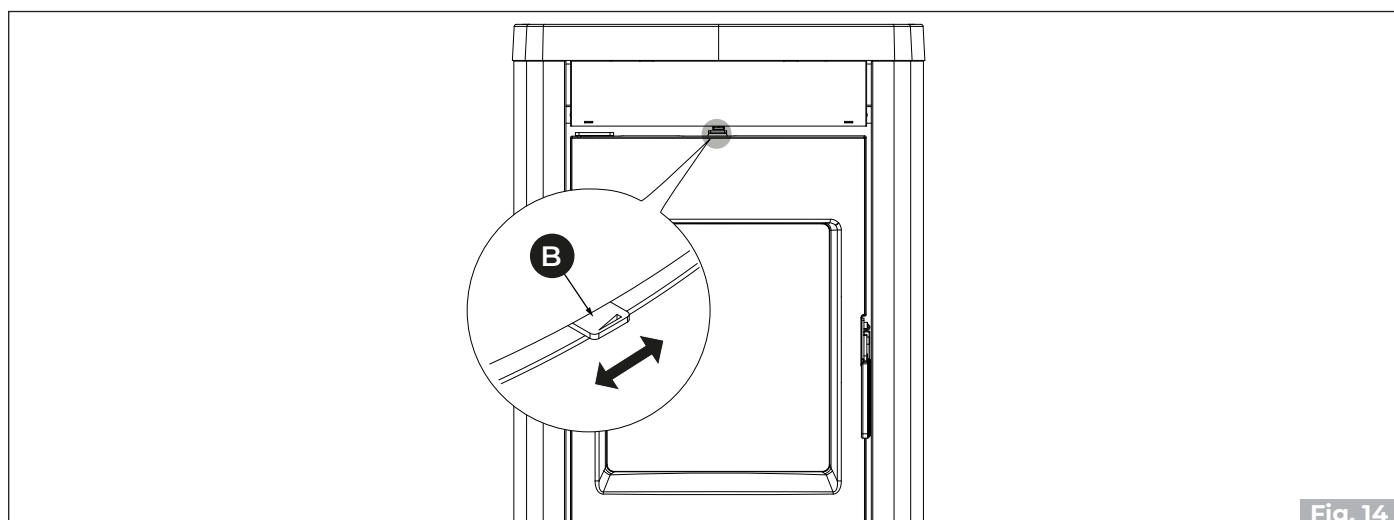

Fig. 14
During operation, it is possible to facilitate the cleaning of the ceramic glass by means of the adjustment lever (B) (**Fig. 14**) without having to open the door.